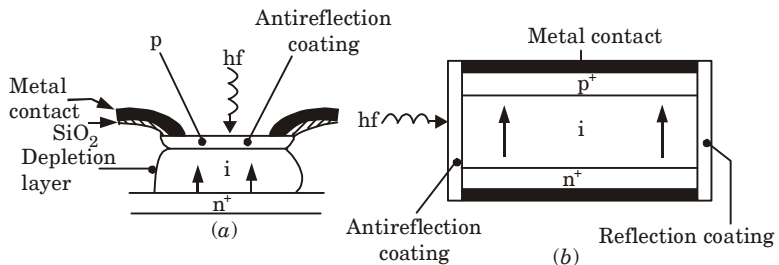

Fig. 4.9.2. (a) Structure of a front illuminated silicon $p-i-n$ photodiode
3. Fig. 4.9.2 shows the structure of two types of silicon $p-i-n$ photodiode for operation in the shorter wavelength band below $1.09 \mu\text{m}$.